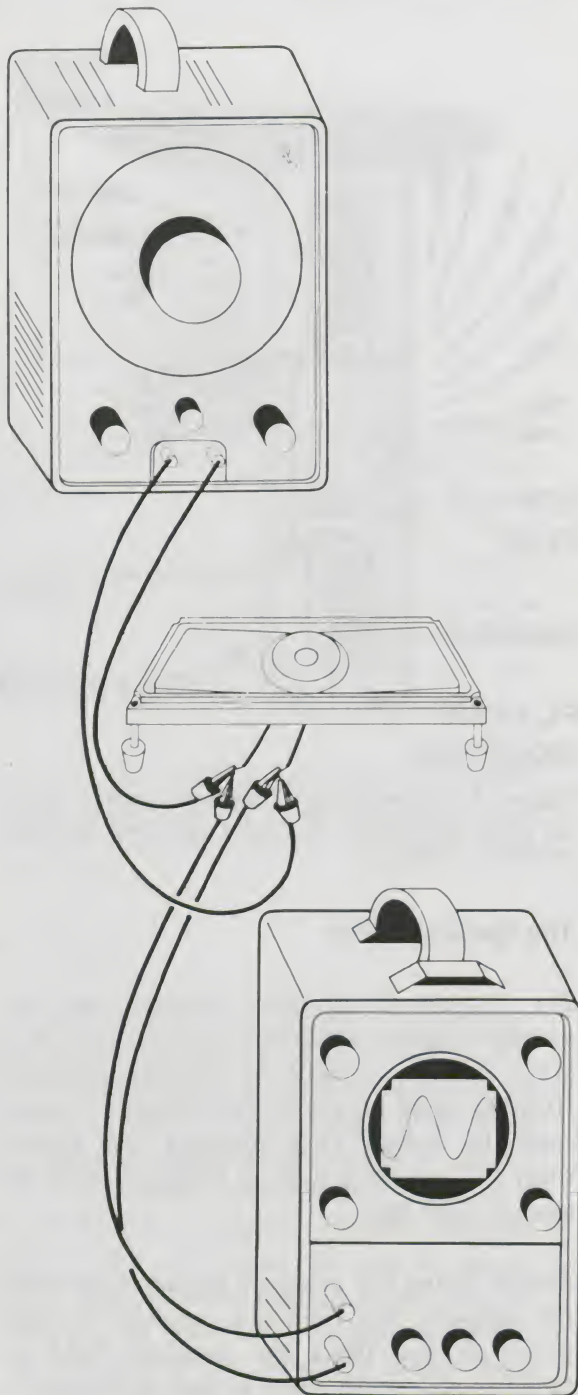

Figure 14.
4. Try different settings of the amplitude and frequency controls on the oscillator. On the scope, you should be able to get a pattern something like the one on the scope in Figure 14. This pattern is called a *sine wave* or a *sinusoidal* pattern. Your oscillator may also have square-wave and/or triangular-wave outputs. If so, try them. Listen to the difference. Which wave sounds most “pure”? What does “pure” mean to you when applied to sound?